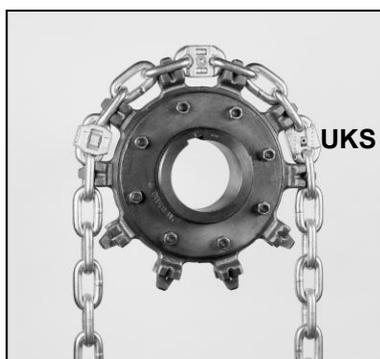

Fig. 2
- Ensure that the chain couplings are fitted with the correct orientation to the sprocket wheels (fig. 2) and pocket chain wheels (fig. 4).